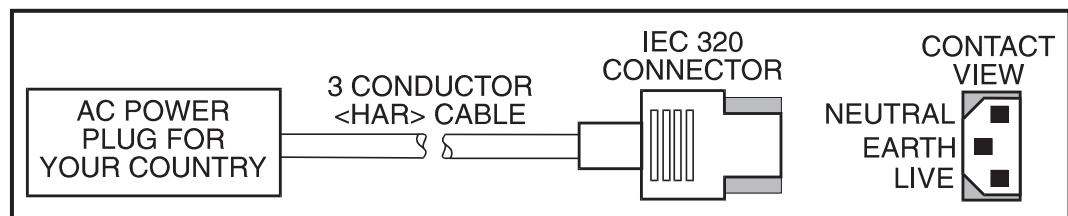

Figure 20. VAC Power Cord
Since many areas of the world have specific power requirements, an AC Power Cord may not be included with your printer. Refer to Figure 20. A power cord must be provided by you that meets your local electrical requirements.
- The AC power plug and IEC320 connector should bear the certification mark of at least one of the known international safety organization shown in Figure 20.